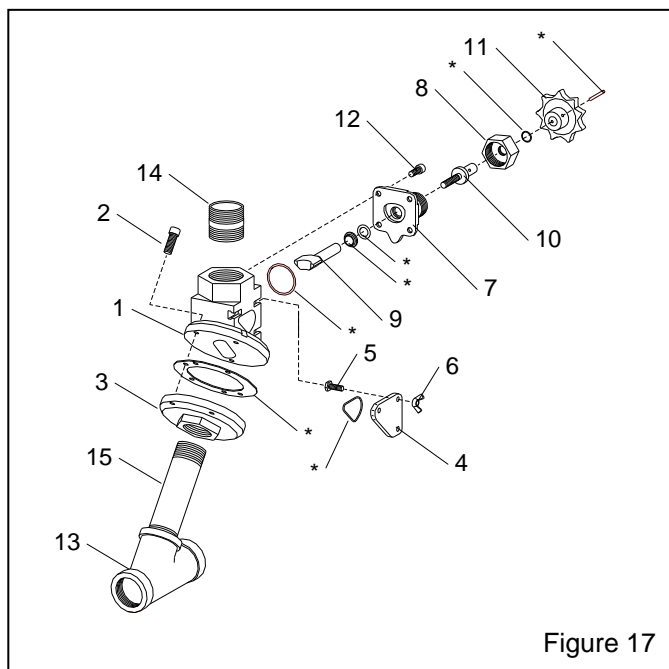

Figure 17
**8.4 Quantum Manual Metering Valve, Figure 17**